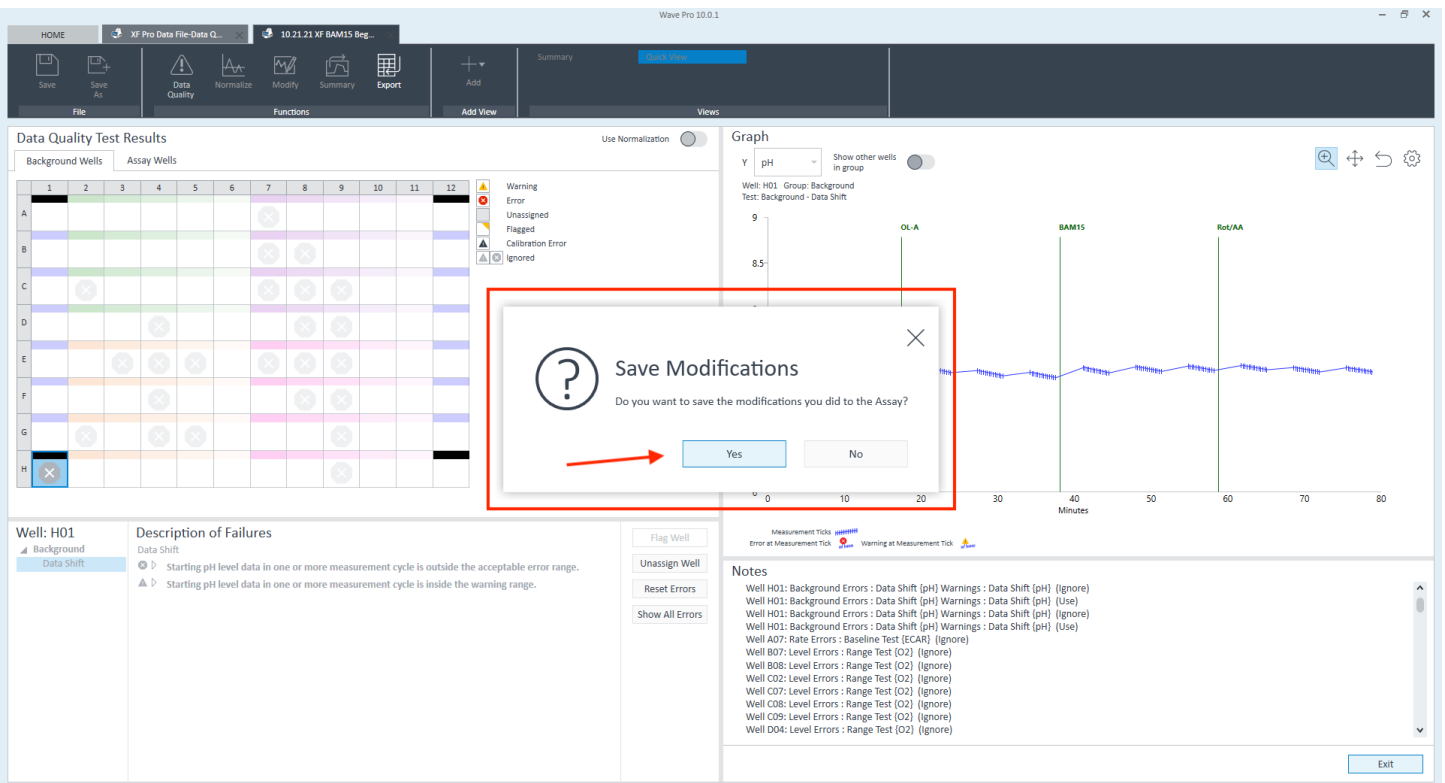

Figure 11. Save modifications exit notice.
10. When you exit the Data Quality analysis view, you will be prompted to save your changes. Choose the appropriate option and you will be returned to the previous analysis view (Figure 11).